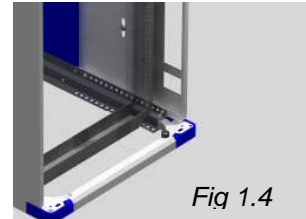

Fig 1.4
- a) Remove the existing standard side panels and replace with the special i-ACE single piece side panel as shown in Fig 1.4. This panel simply bolts to the “W” sections at the top and bottom front and rear and provides a uniform surface for the i-ACE unit to mount on.
Fig 1.4 to 1.6